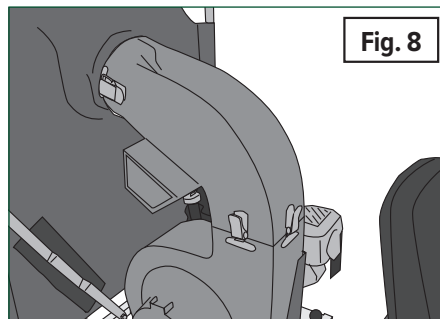

Fig. 8
2. **(Fig. 8)** Puncture through the hose web with a utility knife. Roll the hose on the ground while slitting the web until you meet your cut on the other side.
1. **(Fig. 8)** Connect the bottom of the exit chute onto the top of the Engine/Blower Unit. Be sure all three latches are secured.